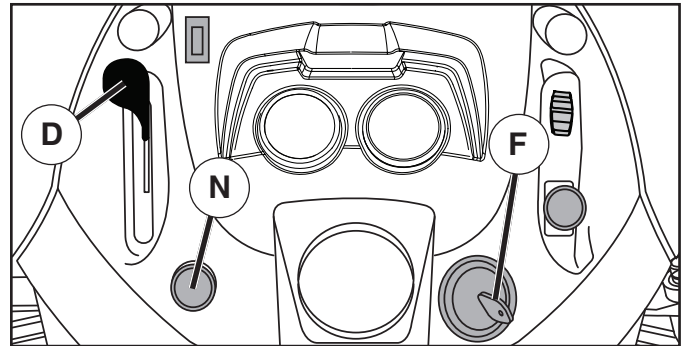

Fig. 8
- Move throttle control (D) to slow position.
- Turn ignition key (F) to "STOP" position and remove key. Always remove key when leaving tractor to prevent unauthorized use.
### TO USE THROTTLE CONTROL (D) (See Fig. 8)
### TO USE CHOKE CONTROL (N) (See Fig. 8)